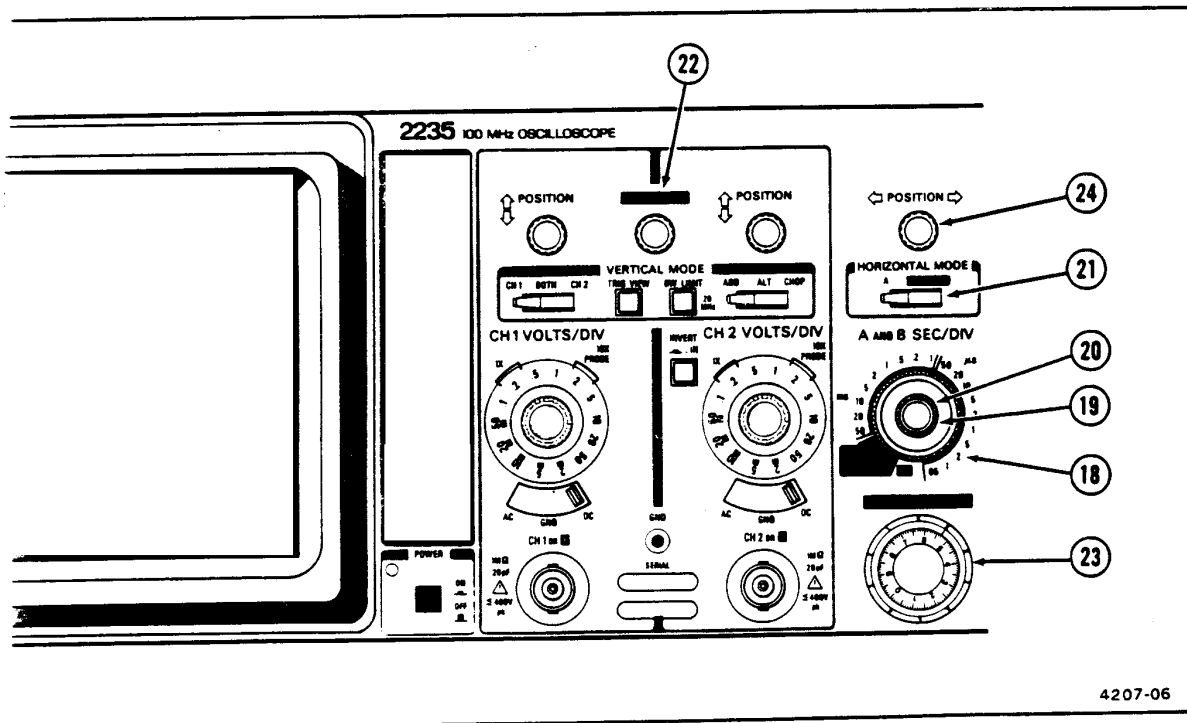

Figure 2-5. Horizontal controls.
Refer to Figure 2-5 for location of items 18 through 24.
- ①8 **A and B SEC/DIV Switches**—Used to select the sweep speeds for the A and B Sweep generators in a 1-2-5 sequence. To obtain calibrated sweep speeds, the A and B SEC/DIV Variable control must be in the calibrated detent (fully clockwise).